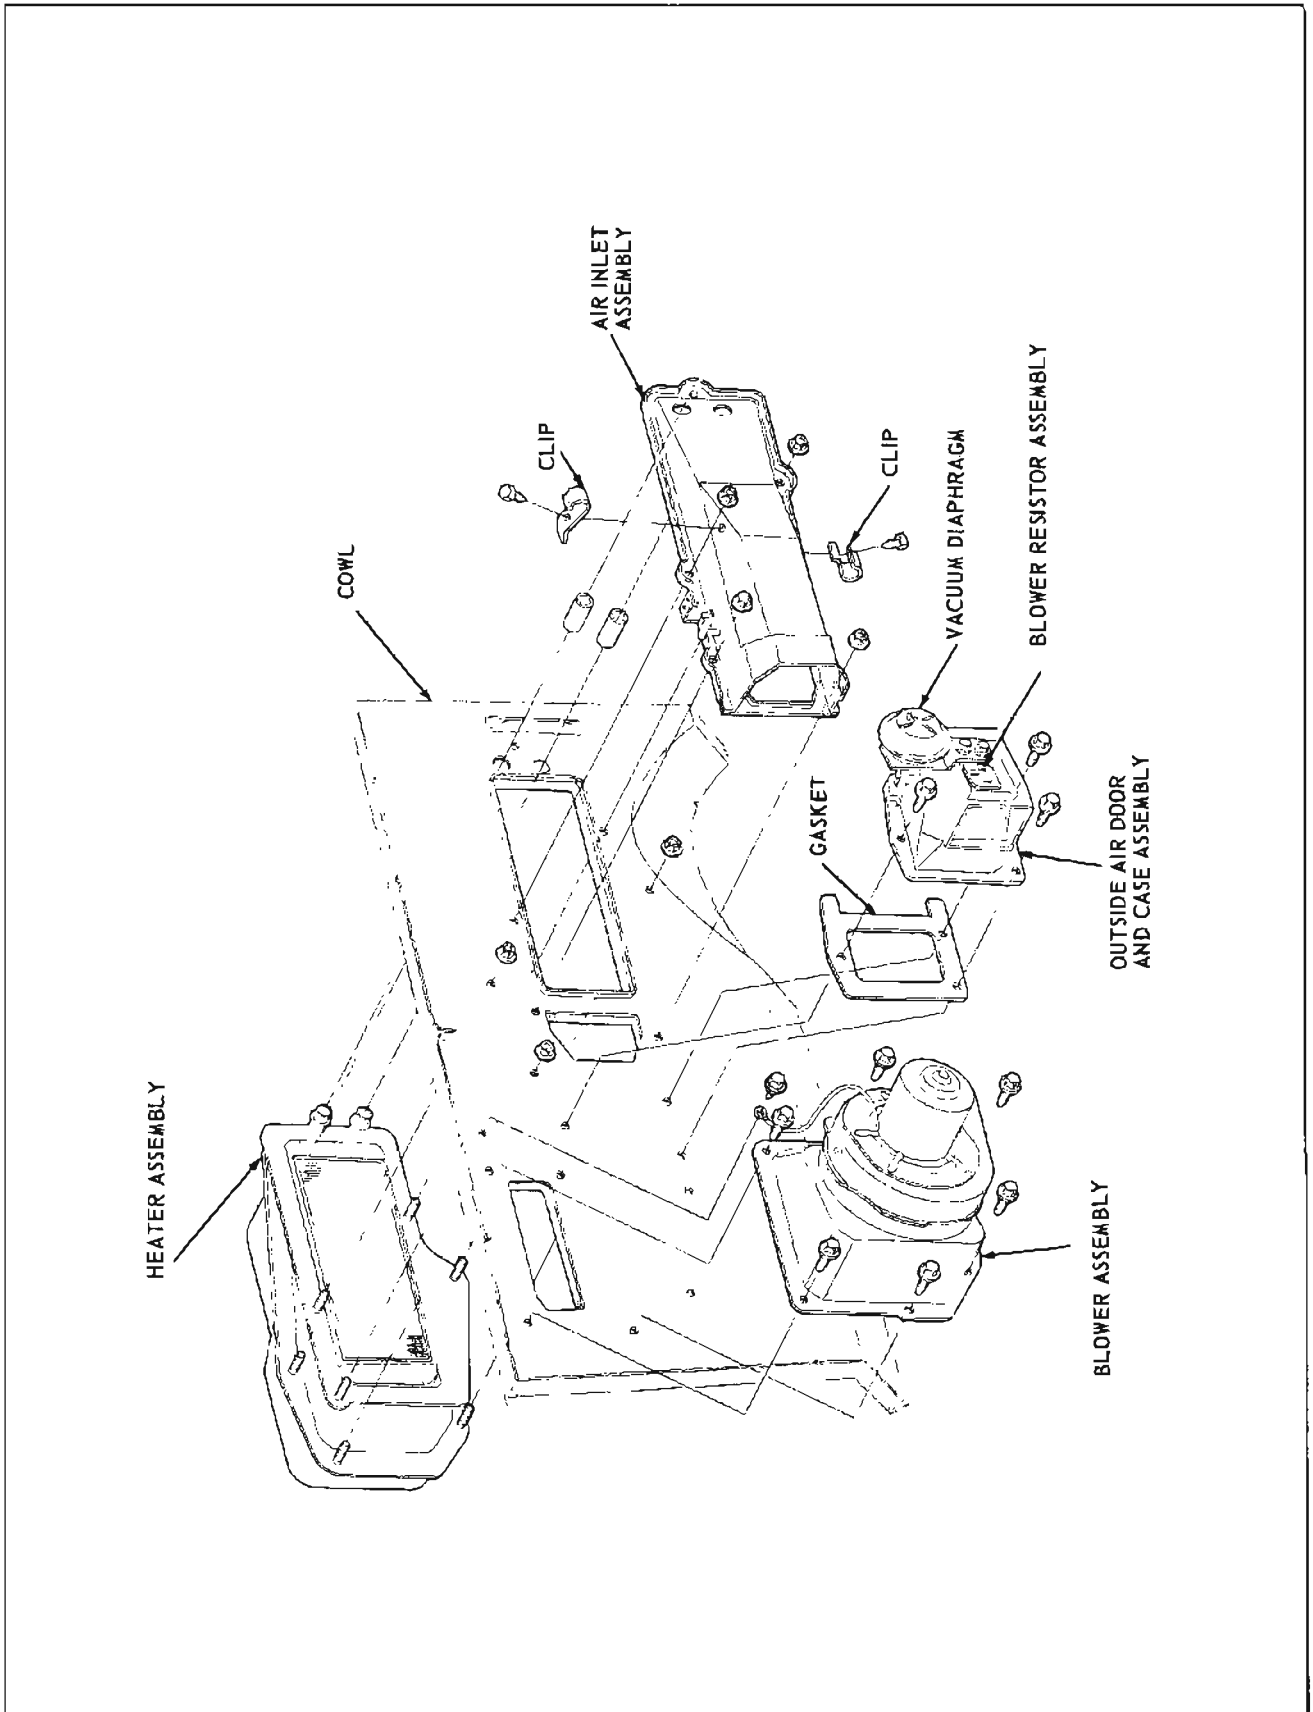
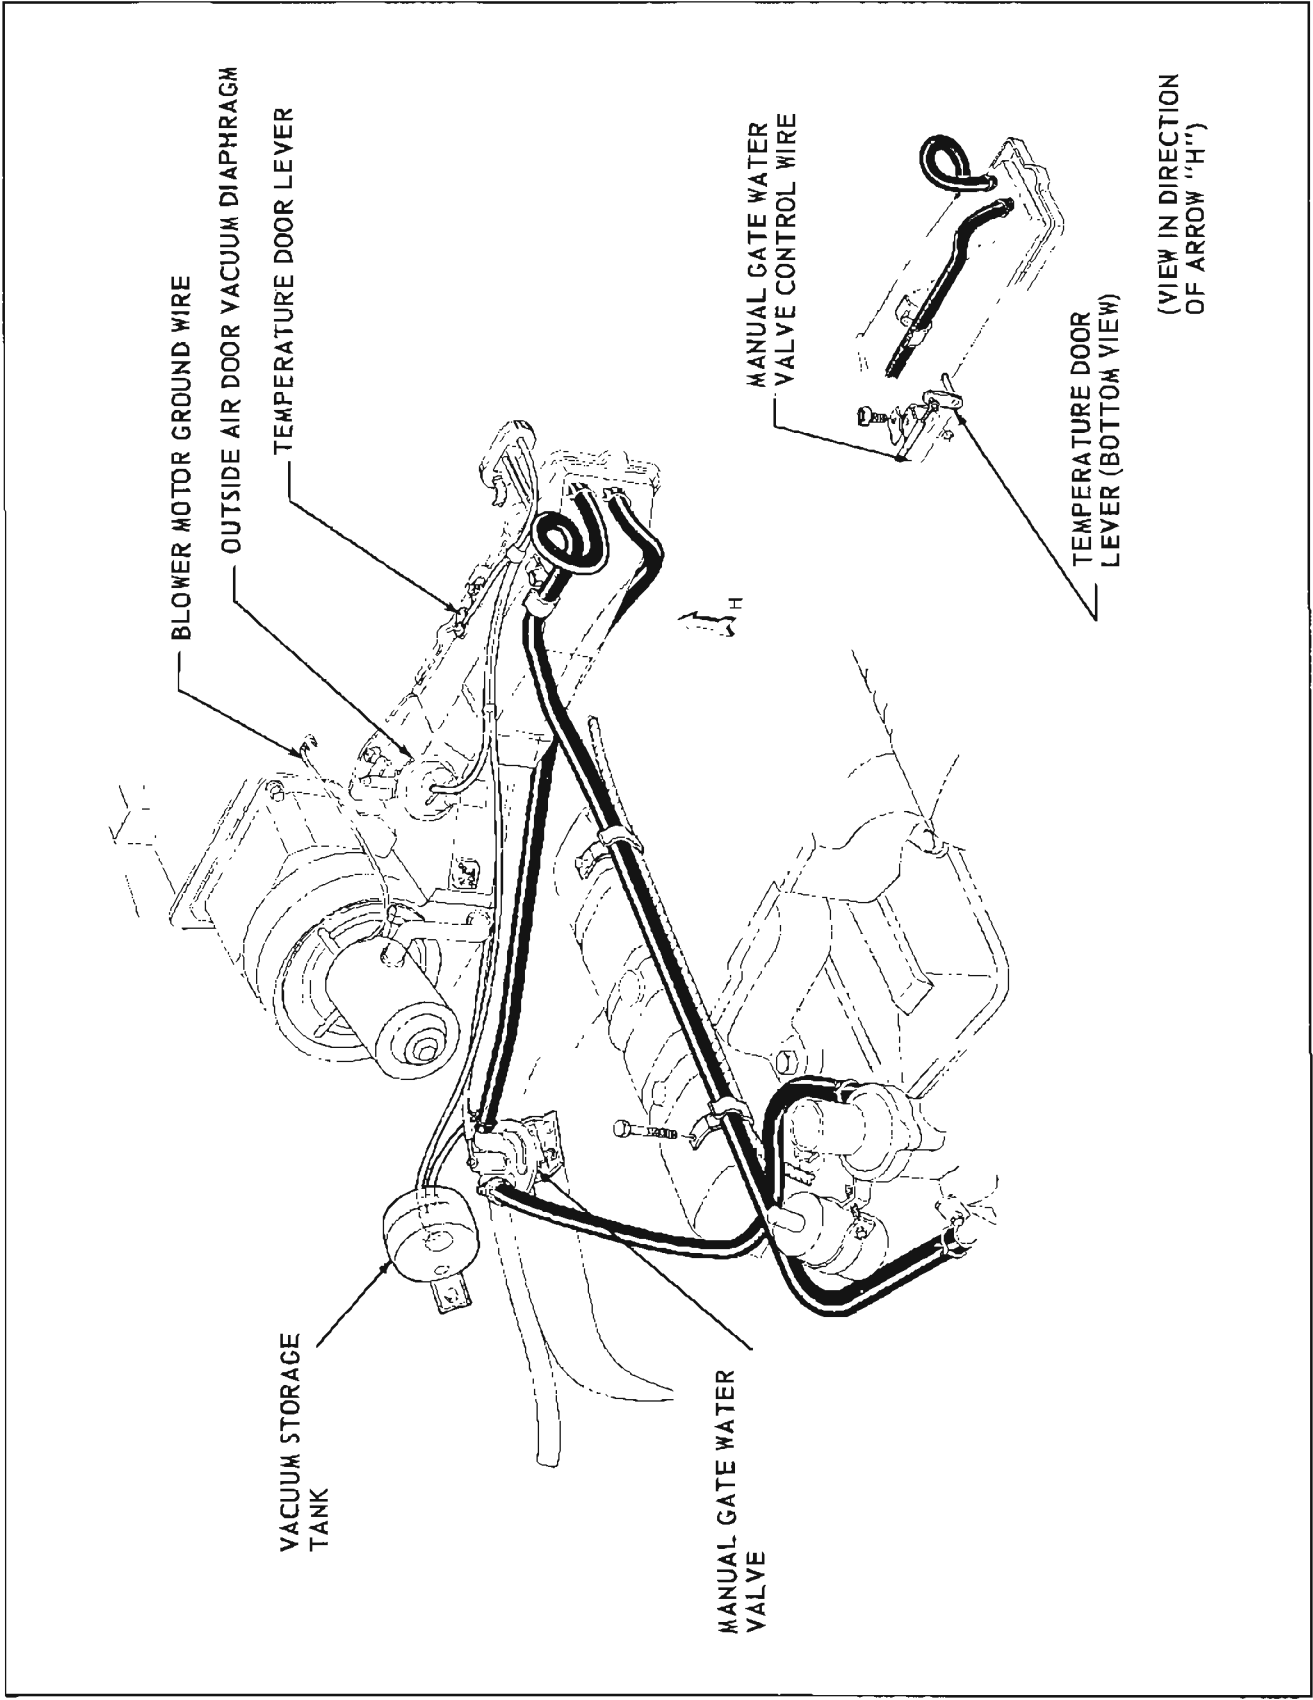

Figure 11-37—Heater System Installation - 4700 Series
Figure 11-39—Heater System Coolant Circulation - 4700 Series
The heater system for the 4700 series cars is essentially similar to the system for 4400, 4600 and 4800 series cars in so far as it is an air-mix type system, and the air flow is basically the same. The heater system has six major assemblies: (1) a blower assembly (see Figure 11-37) which houses the blower fan and motor; (2) an outside air door and case assembly which contains the outside air door, blower resistor assembly and the vacuum diaphragm to operate the door; (3) the air inlet assembly which houses the temperature door; (4) a heater assembly which contains the heater core; (5) console center duct
The flow of coolant thru the heater system is as shown in Figure 11-39. A manual gate water valve shuts off flow of coolant thru heater core when system inoperative.
NOTE: When adjusting the heater temperature control wire, disconnect the control wire linking the manual gate water valve and the bottom lever of the temperature door (see Figure.11-39).
To remove heater core it is necessary to take out heater assembly. Removal of all components of heater system will be obvious on inspection (see Figures 11-37, 11-38, and 11-46).
<p>4700 Series</p> <p>4. Blower motor inoperative.</p> <p>5. Insufficient heating.</p> <p>6. Insufficient defrosting.</p>	<p>4a. Check fuse.</p> <p>4b. Check for defective heater blower switches (2) located on heater-defroster control assembly.</p> <p>4c. Check blower motor ground wire (see Figure 11-39).</p> <p>4d. Check for defective blower resistor assembly (see Figure 11-37).</p> <p>4e. Check for loose connections or broken wires.</p> <p>5a. Check operation of outside air door (ref. subpar. 11-6, "b"), and temperature door (ref. subpar. 11-8, "a").</p> <p>5b. Also refer to above corrections 2b and 2c.</p> <p>6a. Refer to correction 5a.</p> <p>6b. Check operation of defroster door (ref. subpar. 11-8 "a").</p>